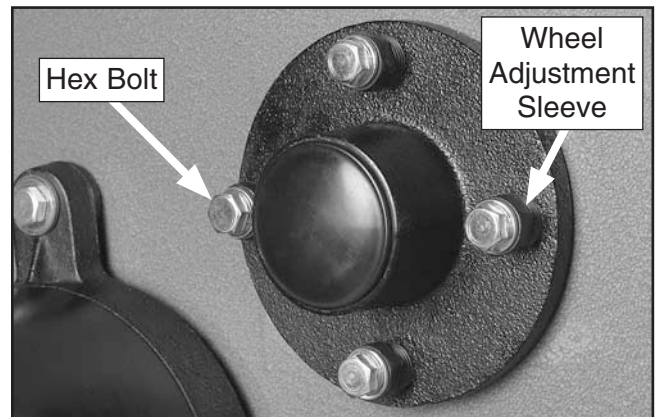

Figure 52. Wheel adjustment hub.
2. Loosen the four hex bolts on the lower wheel adjustment hub (**Figure 52**). These secure the wheel adjustment sleeves.